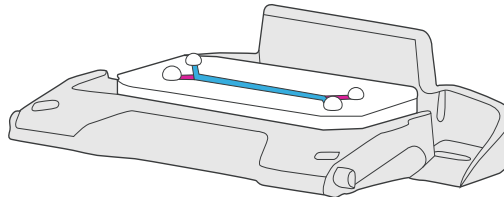

Figure 3. Chip in chip carrier with small droplets of ECM solution at ports
4. Introduce ECM solution through the top channel inlet, leaving small droplets of excess ECM solution on both ports in both channels (Figure 3).